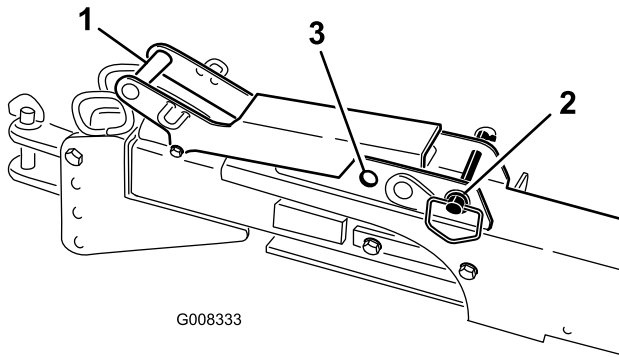

Figure 21
- A. Make sure that the latch-handle pin is in the unlocked (rear) position (Figure 21).
Note: Lock the hitch assembly in the extended position by moving the latch handle pin to the forward (locked) position (Figure 21).